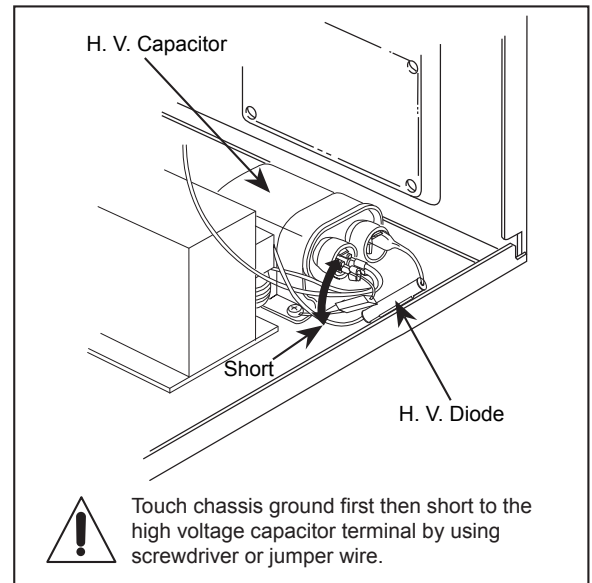

Fig. 1-1 Discharging High Voltage Capacitor
1. High Voltage Warning Do not attempt to measure any of the high voltages --this includes the filament voltage of the magnetron. High voltage is present during any cook cycle. Before touching any components or wiring, always unplug the oven and discharge the high voltage capacitor (See Figure 1-1)